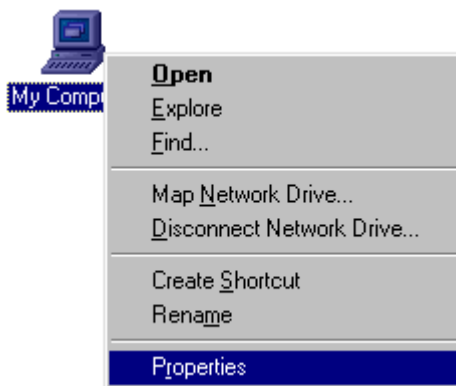

Figure 47 My Computer Icon and Menu
1. From the desktop, right-click the **My Computer** icon, then select **Properties** from the menu, as shown in Figure 47.